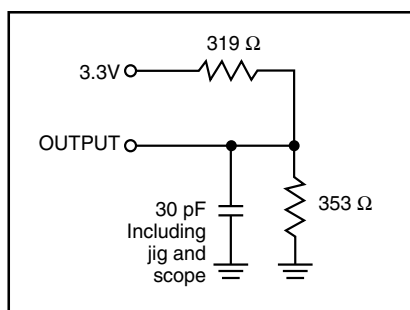

Figure 1.
1. Test conditions assume signal transition times of 3 ns or less, timing reference levels of 1.5V, input pulse levels of 0V to 3.0V and output loading specified in Figure 1.
Output Load	See Figures 1 and 2